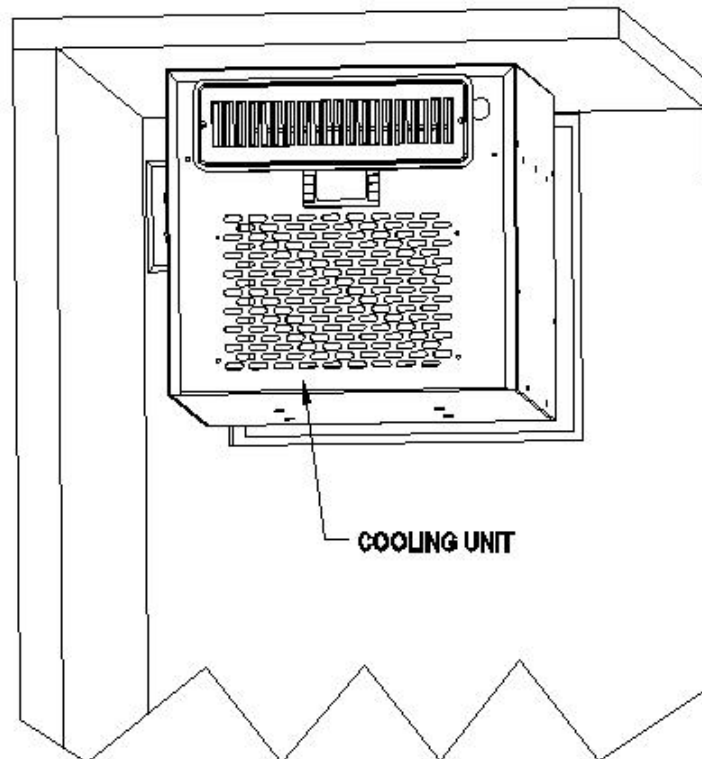

Fig. 2.5 COOLING UNIT
- Move the cooling unit towards the mounting sides and push to press the gaskets (see Fig 2.5).